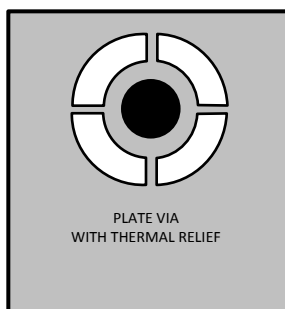
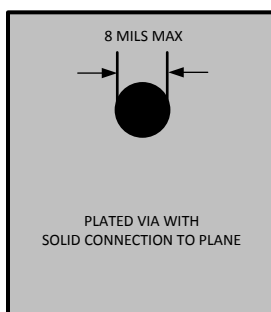

Figure 9. Via Connection Not Recommended Under the Thermal Pad
Figure 10. Via Connection Recommended For Use in Thermal Pad
5. When laying out these holes to the ground plane, do not use the typical web or spoke via connection methodology, as shown in Figure 9. Web connections have a high thermal resistance connection that is useful for slowing the heat transfer during soldering operations. This makes soldering the vias that have ground plane connections easier. However, in this application, low thermal resistance is desired for the most efficient heat transfer. Therefore, the holes under the thermal pad should make their connection to the internal ground plane with a complete connection around the entire circumference of the plated-through hole. Use plated via with solid connection to plane as shown in Figure 10.